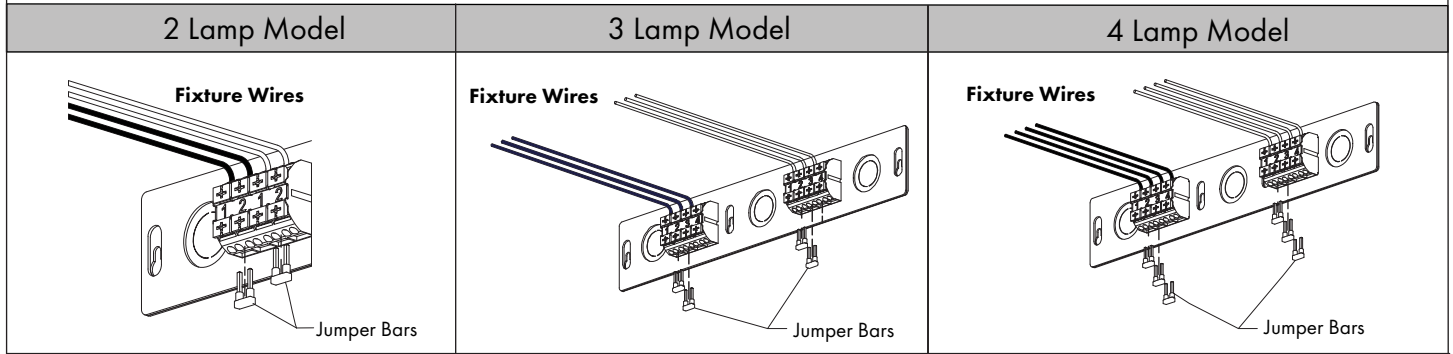

FIG 24.1 Remove Jumper Bars
STEP 1 Remove jumper bars from terminal blocks as needed for individual lamp control - **FIG 24.1**.
- STEP 1** Remove jumper bars from terminal blocks as needed for individual lamp control - **FIG 24.1**.